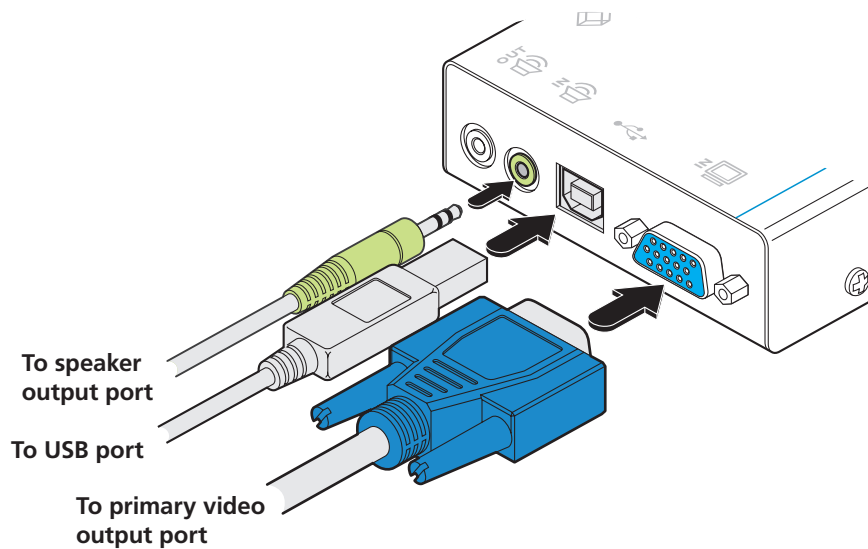

Figure 3-3. Attaching the video, USB and (optional) audio cables
- 2 Attach the video, USB (see the Important note above) and (optionally) audio connections from the computer system to the relevant sockets on the local module as shown in Figure 3-3: